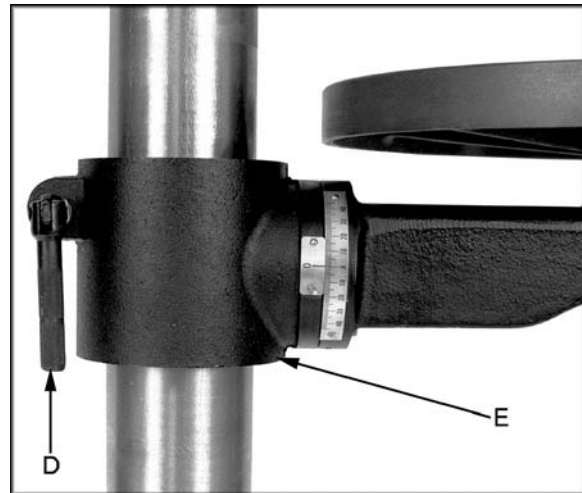

Figure 2
3. Thread lock handle (D, Figure 2) into the table bracket (E, Figure 2).